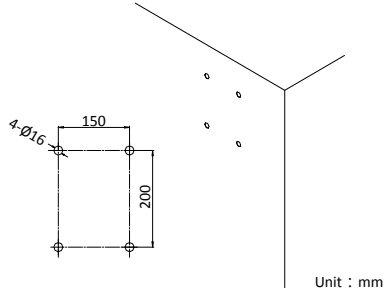

Figure 2-2 Drill Screw Holes
- 1) Drill four $\varnothing 16$ screw holes where you want to install the positioning system according to the holes on the bracket as shown in Figure 2-2.